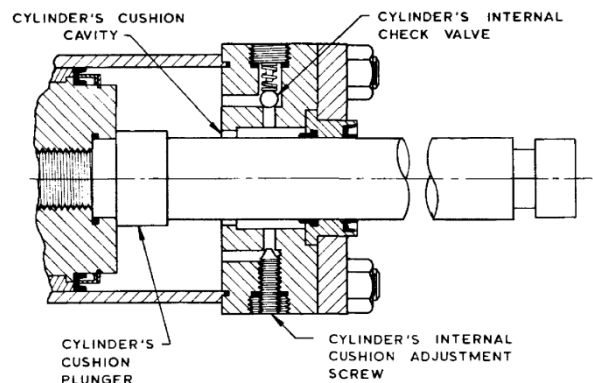

Figure 6. Internal Cushion Adjustment
2. The cylinder's internal cushion adjustment screw in the face of the head is factory set at 4 turns from being bottomed out, see Figure 6.